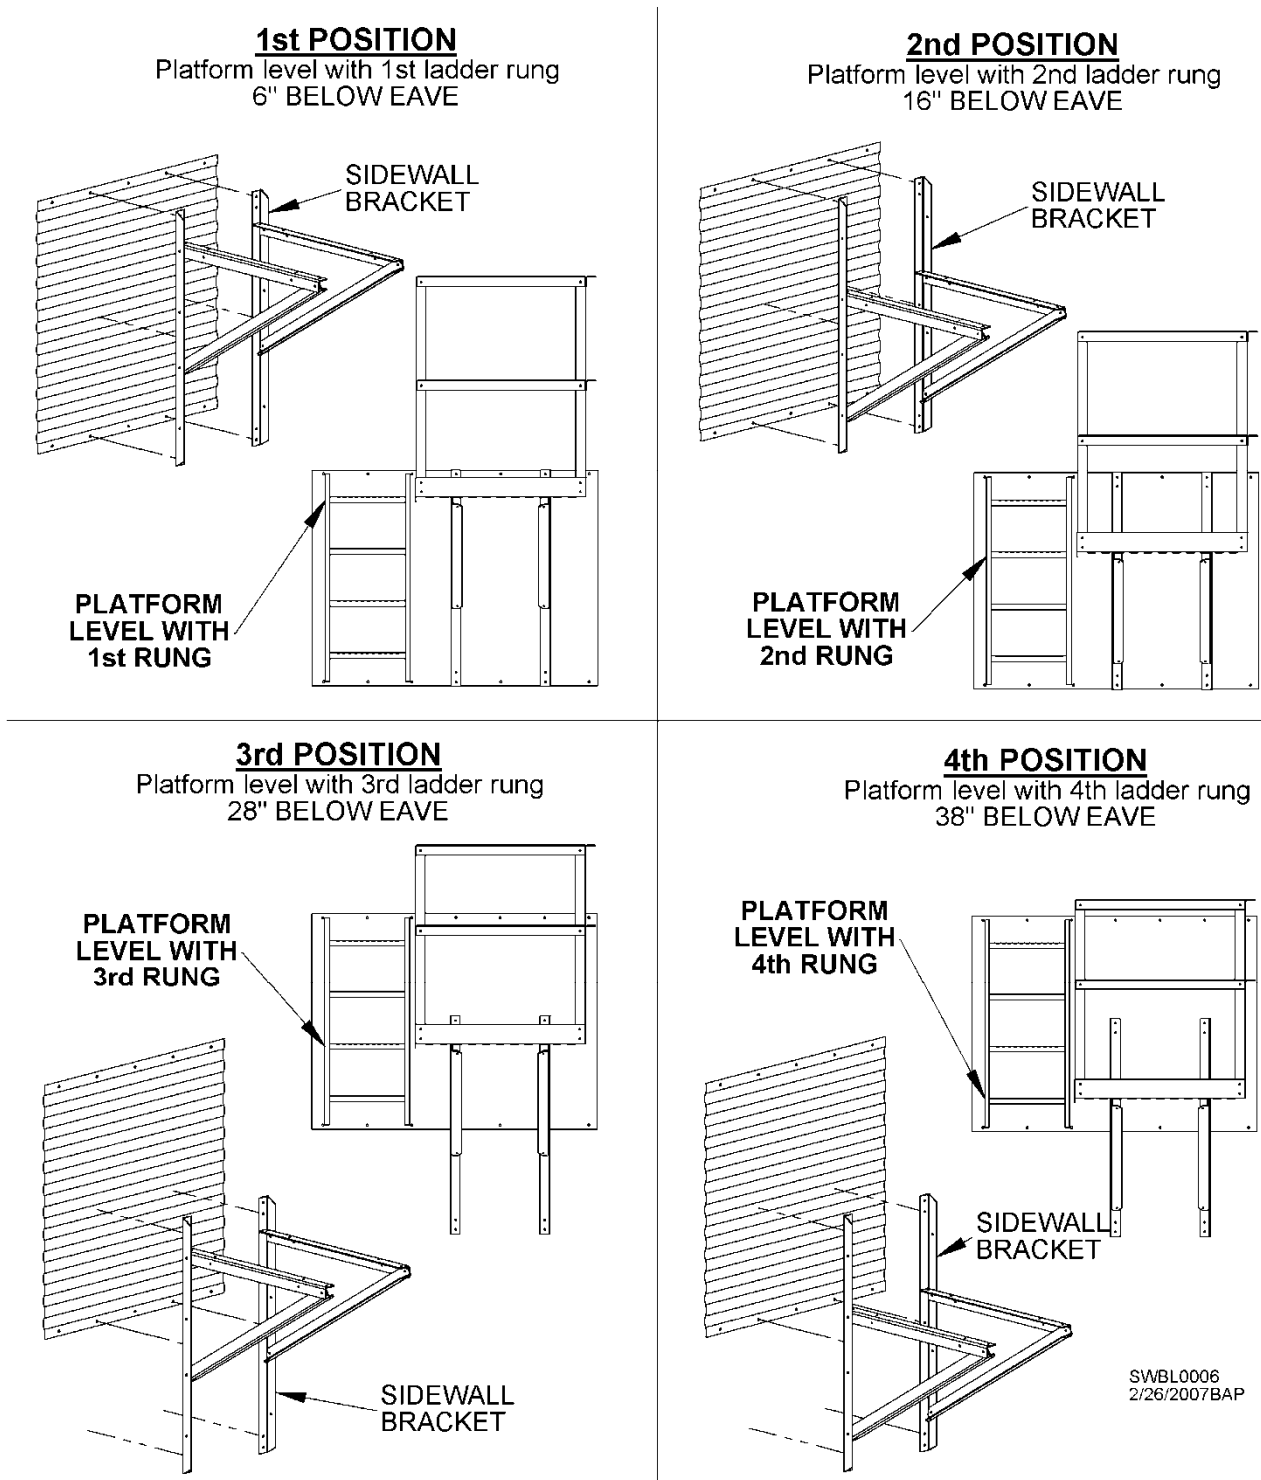

Fig.10
Fig. 10 shows the four (4) positions where platform can be located. **NOTE:** Each location is at same level as a ladder rung in first ring. For 1st & 2nd positions, 44" sidewall bracket mounts to sidewall at horizontal seams and in middle of sidewall sheet. For 3rd & 4th positions, middle hole of 44" sidewall bracket mounts at horizontal seam and top and bottom of bracket are attached in middle of sidewall sheets. Field drilling is required.